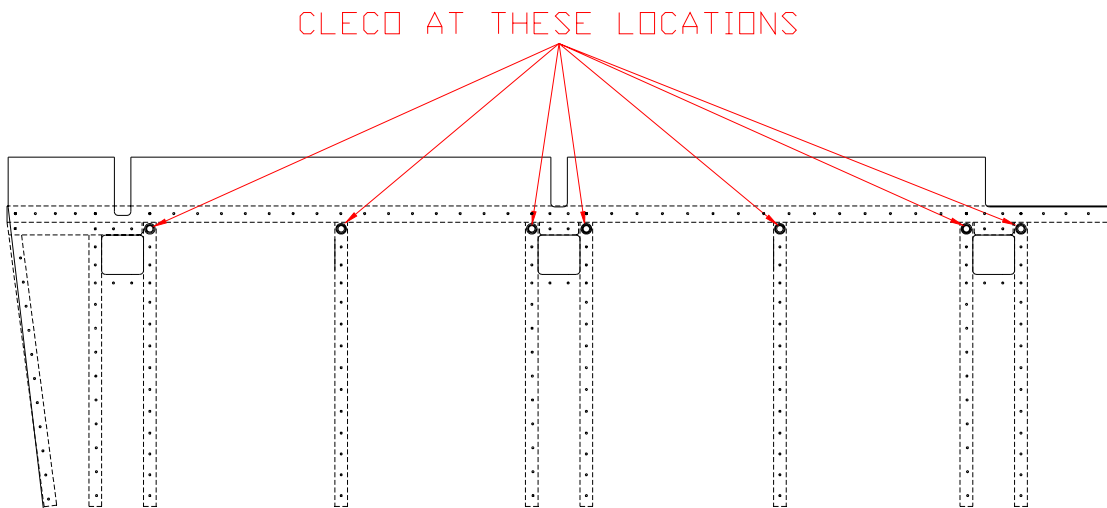

Figure 5.2.2
2) Position the Rudder Skin over the Spar/Rib assembly, cleco the Skin to the Ribs using the prepunched alignment holes. Figure 5.2.2.